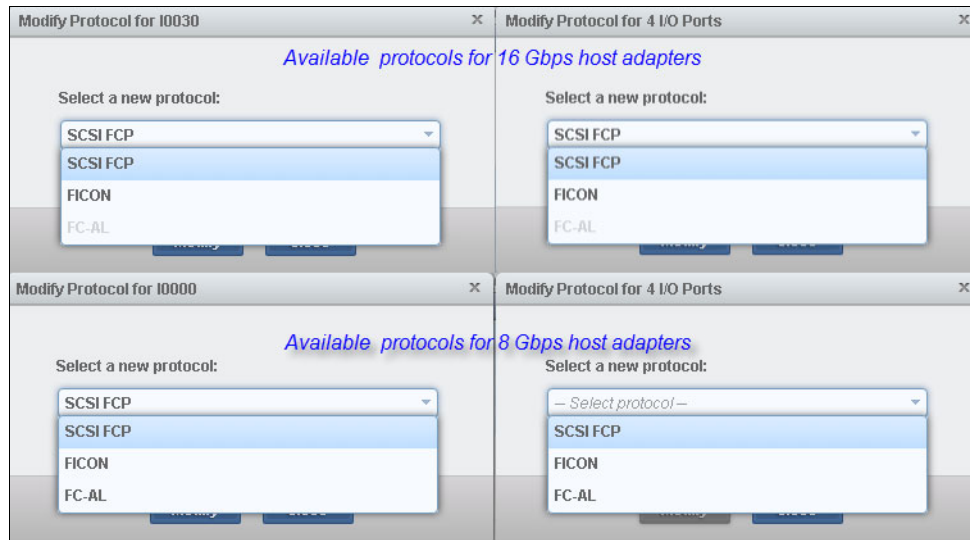

Figure 11-43 Modify I/O Port: Select a new protocol: Single or multiple 16 and 8 Gbps ports
3. From the Actions tab, click **Modify Protocol** to open the Modify Protocol window, as shown in Figure 11-43.
Figure 11-43 is divided into two main sections: